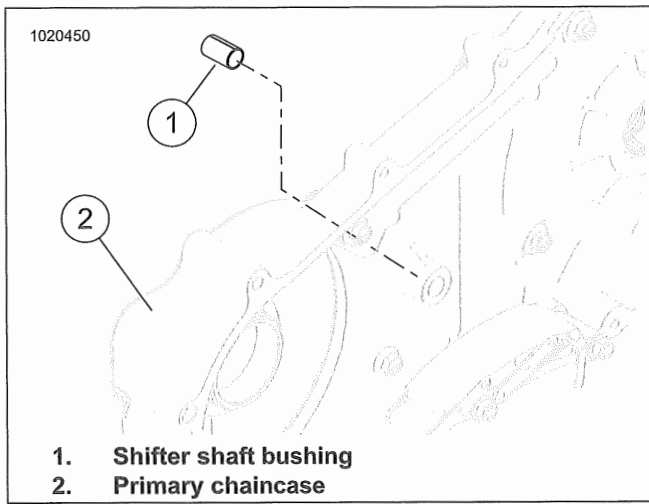

Figure 5-33. Shifter Shaft Bushing
1. See Figure 5-33. Press out old bushing (1) from front to back.